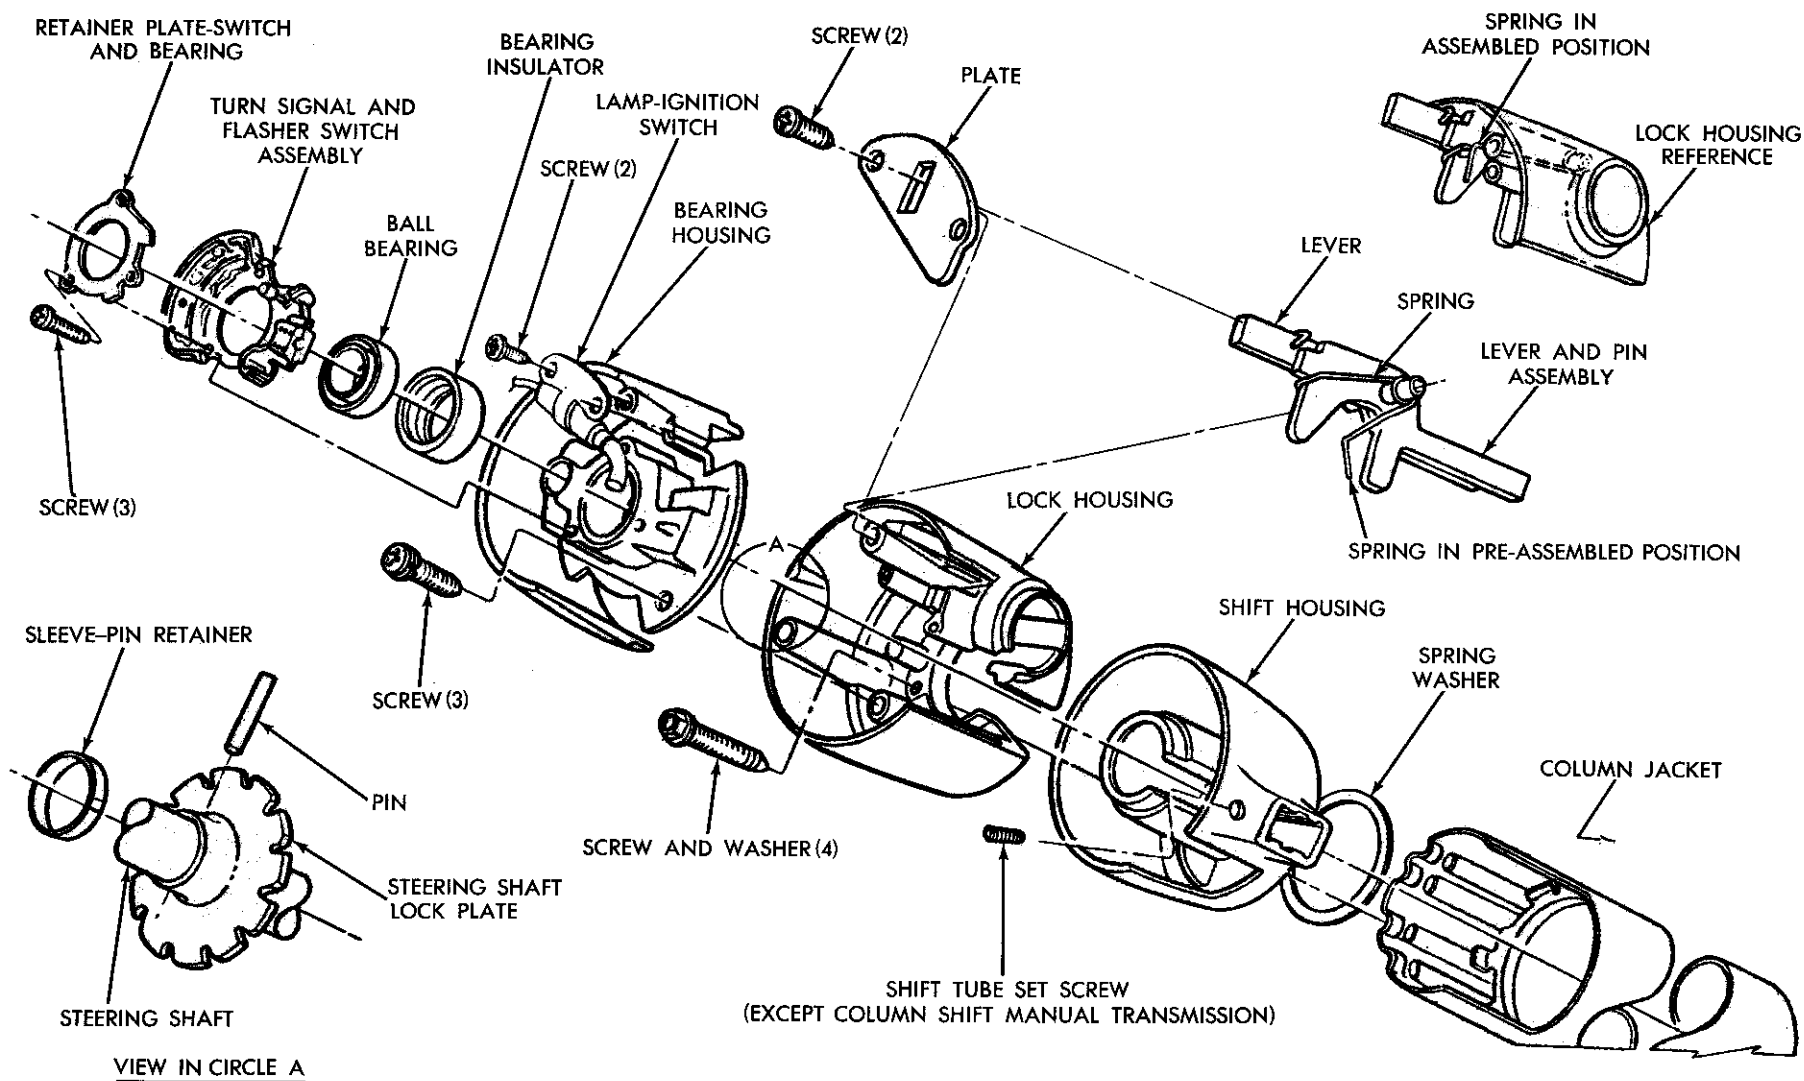

Fig. 21—Steering Column Upper End—Disassembled
COLUMN ASSEMBLY (Fig. 21)
(1) Install column holding tool C-4132 and clamp column in a vise with both ends of column accessible.
(2) Install the O-ring retainer, O-ring, and floor plate on lower end of column jacket. **This must be done before installing shift tube.**
(3) Coat spring washer with grease and install on lower hub of gearshift housing. Position gearshift housing on the jacket (Fig. 21).
Bearing Housing Assembly (Fig. 21)